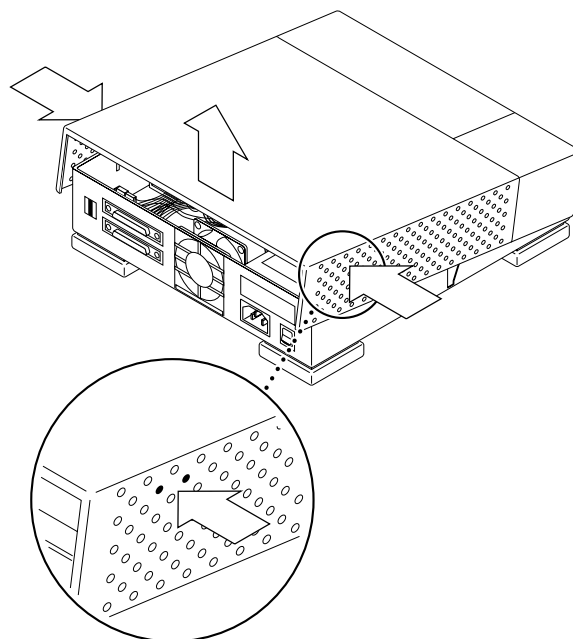

Figure 2-2 Removing the Cover
2. Locate the holes on both of the side vented panels and insert a small (2 to 3mm) screwdriver into one of the specific holes shown in Figure 2-2.